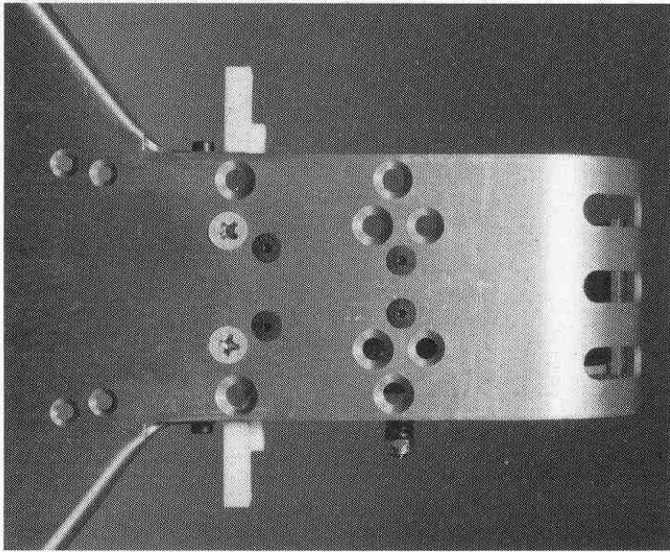

Fig. 75
□ **Fig. 75** These 6 screws should be loose yet.